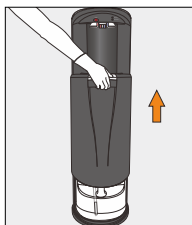

Figure 29
1. Open Dispenser Door (Figure 29). (Slide door upwards to allow access to bottle area)